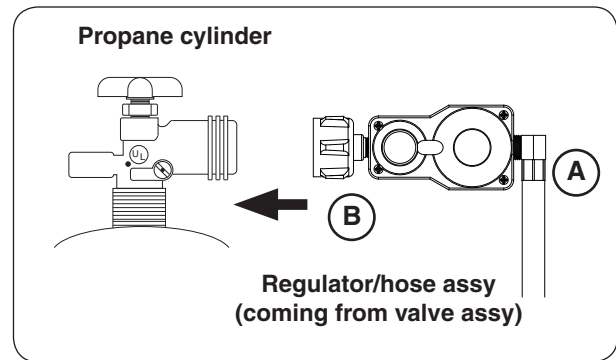

Fig. 18-1 Connecting to an L.P. cylinder
3. Attach the regulator end of the hose assembly to a propane cylinder (not included) and tighten (see Fig. 18-1).